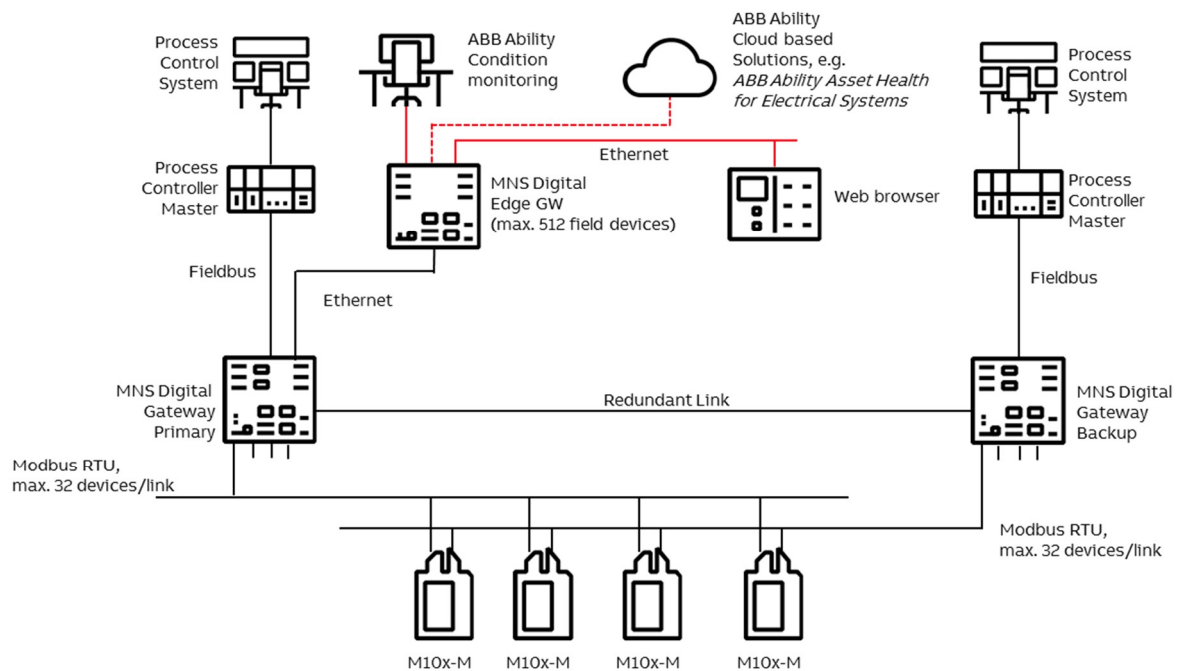

Figure 21 Redundancy configuration and possible failure scenario
- Redundant (two) DCS / PLC Master where each is connected to one MNS Digital Gateway (see example Figure 21)